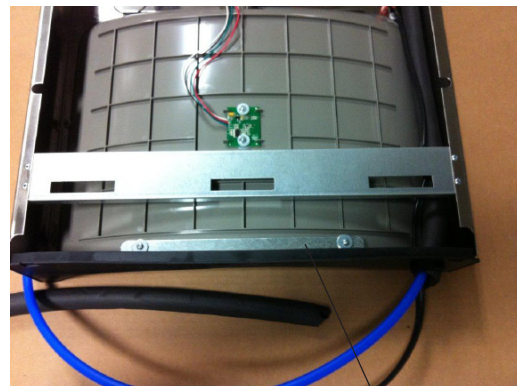

Fig. 10
- 6) **Install gasket on bottom of bottle filler tower** with gasket support bracket, (2) washers, & (2) screws (See Fig 10).